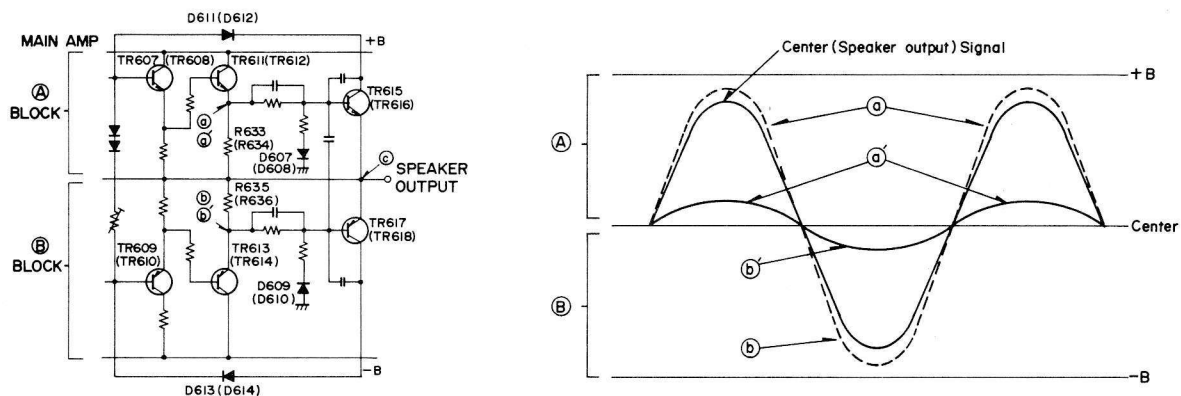

Figure 14
If speaker terminals are shorted, the output line (©line of Figure 14) is grounded and excessively high current flows from collector to emitter of TR611 (TR612) and TR613 (TR614), and a high voltage will appear across R633 (R634) and R635 (R636).
High current (input signal of TR607 [TR608] and TR609 [TR610]) flows from collector to emitter of TR615 (TR616) and TR617 (TR618) through D611 (D612) and D613 (D614), and collector to emitter current of TR611 (TR612) and TR613 (TR614) will drop as Figure 14 (from @ to @', from ① to ②) because of the output current limiting, and thus protect Power Transistors TR611 (TR612) and TR613 (TR614).